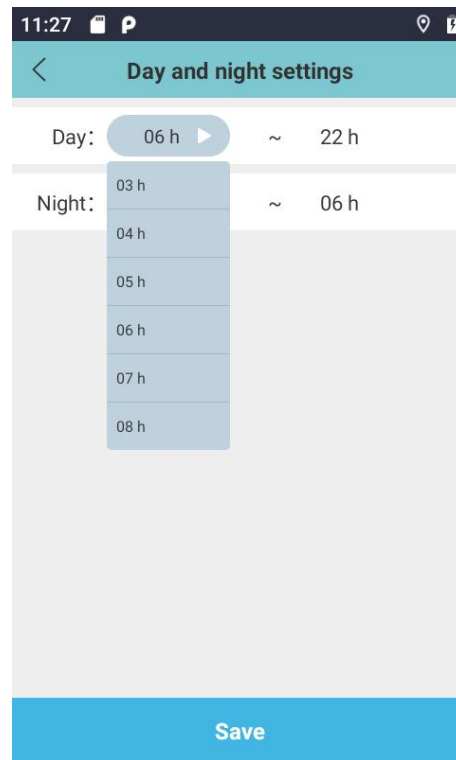

Figure 6.107
- 3) Day/Night Mode: Tap “Day/Night Settings” to configure automatic time-based display modes, as shown in Figure 6.107. Default daytime: 06:00 to 22:00. Default nighttime: 22:00